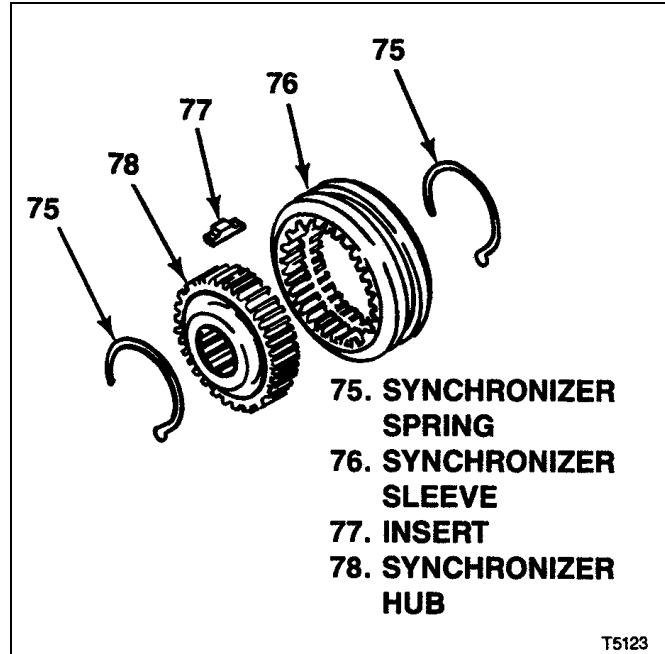
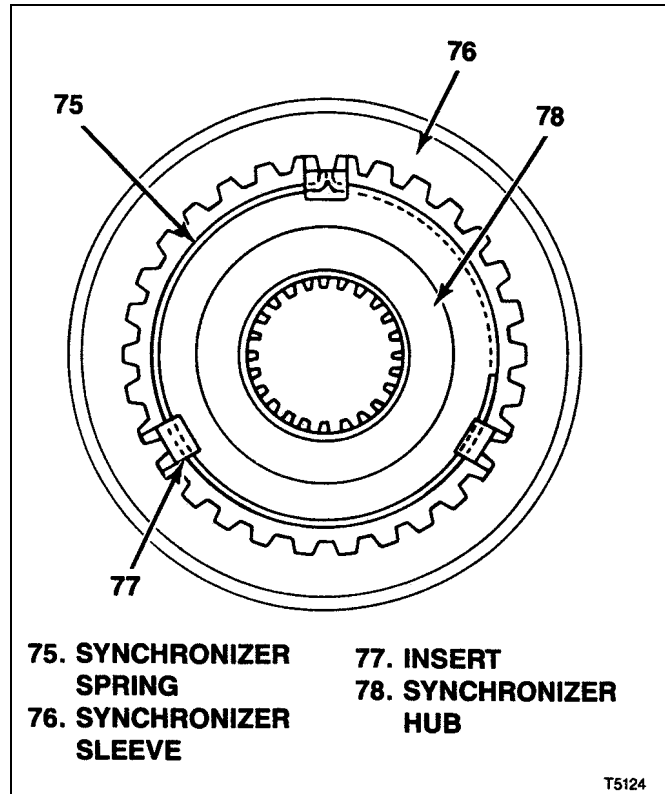
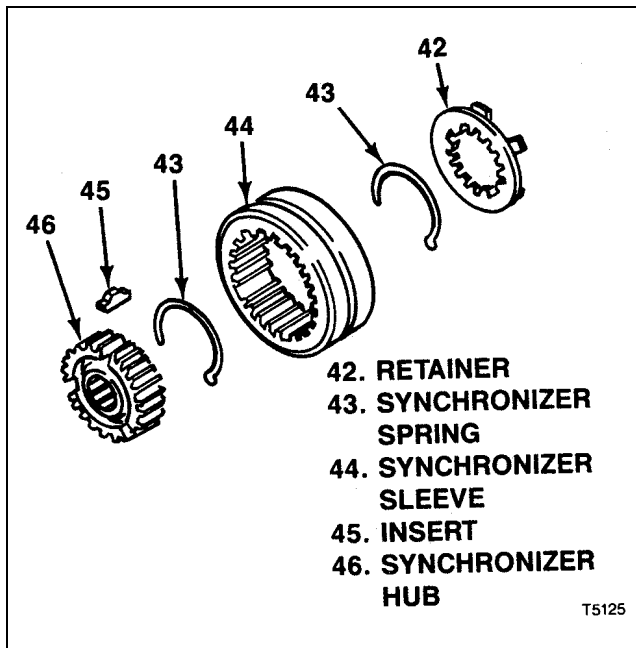

Figure 7-1. T5 STD 3rd-4th Synchronizer Assembly
Figure 7-2. T5 STD 3rd-4th Synchronizer Assembled
Figure 7-3. T5 STD 5th Synchronizer Assembly
- Bearing (39)
- Bearing cone (61)
- Bearing roller (63)
- Thrust bearing (64)
- Needle bearing (71)
- Bearing (101)
7-6. ASSEMBLY OF T5 STD 3RD-4TH SYNCHRONIZER ASSEMBLY (see figure 7-1). Be sure to assemble sleeve (76) and hub (78) aligning marks made at disassembly (see figure 7-2) so that clutch teeth and part faces are assembled exactly as they were originally. Assemble as follows:
- b. Hook one end of one spring (75) under one of the inserts (77) and wrap around inside, under all three inserts. Hook other end of spring under insert (see figure 7-2).
- c. Invert assembly. Hook remaining spring (75) under opposite end and side of same insert (77) where step b was started but wrap around inside in opposite direction from step b, under all three plates. Hook other end of spring under insert (77) (see figure 7-2).
- d. Position sleeve (76) and inserts (77) so that all inserts snap into neutral position..
7-7. ASSEMBLY OF T5 STD 5TH SYNCHRONIZER (see figure 7-3) Be sure to assemble sleeve (44) and hub (46) aligning marks made at disassembly so that clutch teeth and part faces are assembled exactly as they were originally. Assemble as follows: